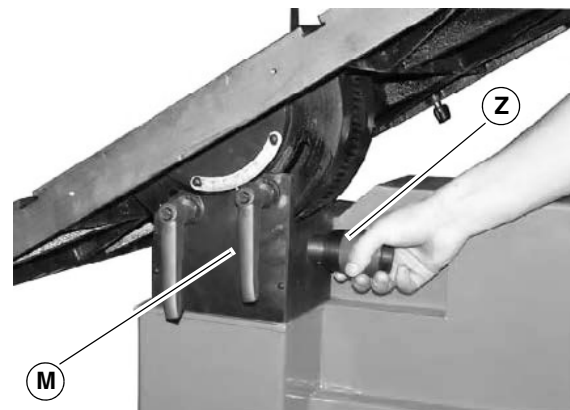

Fig. 29: Tilt the work table
Step 2: Release the locking lever (Pos. M, Fig. 29).
Step 3: Turn tilt lever (Pos. Z, Fig. 29) until the desired angle is reached.
Step 4: Retighten the locking lever (Pos. M, Fig. 29).